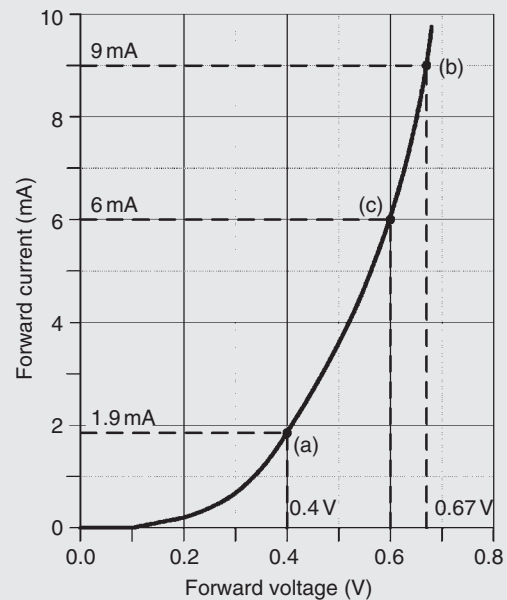

Figure 11.11
Problem 4. The forward characteristic of a diode is shown in Fig. 11.11. Use the characteristic to determine (a) the current flowing in the diode when a forward voltage of 0.4 V is applied, (b) the voltage dropped across the diode when a forward current of 9 mA is flowing in it, (c) the resistance of the diode when the forward voltage is 0.6 V, and (d) whether the diode is a Ge or Si type.
- From Fig. 11.11, when $V = 0.4$ V, **current flowing, $I = 1.9$ mA**